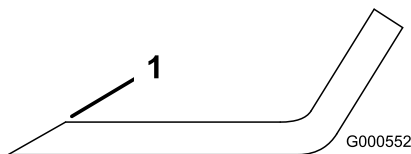

Figure 52
1. Use a file to sharpen the cutting edge at both ends of the blade (Figure 52).
Note: If the blade is not balanced, file some metal off the end of the sail area only (Figure 52).